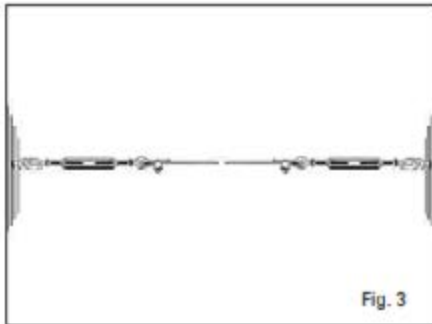

Fig. 3
- W2. Attach steel cable to one wall or I-beam with eyebolts and turnbuckles. (Fig. 3)